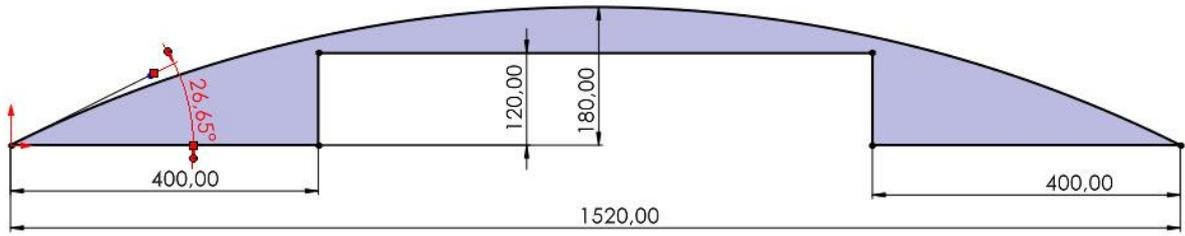

Figure 3. 3D view and dimensions of the bridge
4. There are four bridges on the track, each approximately  $27^\circ$  angled, 1520 mm long and 720 mm wide (see Figure 3).